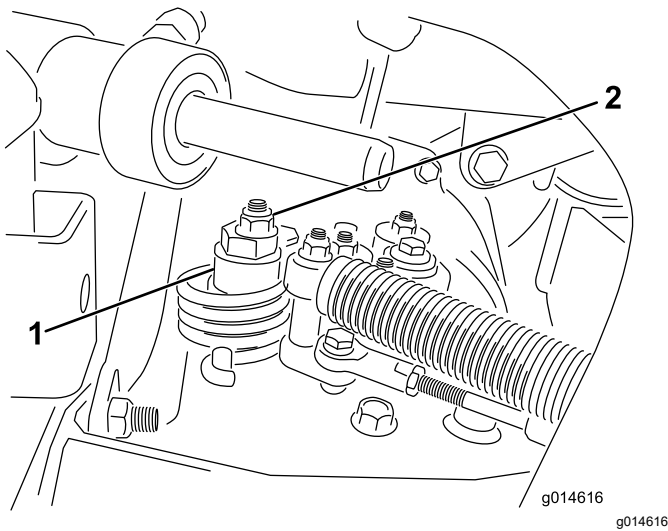

Figure 43
- A. Loosen the nut securing the eccentric to the top of the hydrostat (Figure 43).
- C. Rotate the eccentric until creep does not occur in either direction. When the wheel stops rotating, tighten the nut locking the eccentric and the adjustment (Figure 43). Verify the adjustment with the throttle in the SLOW and FAST position.